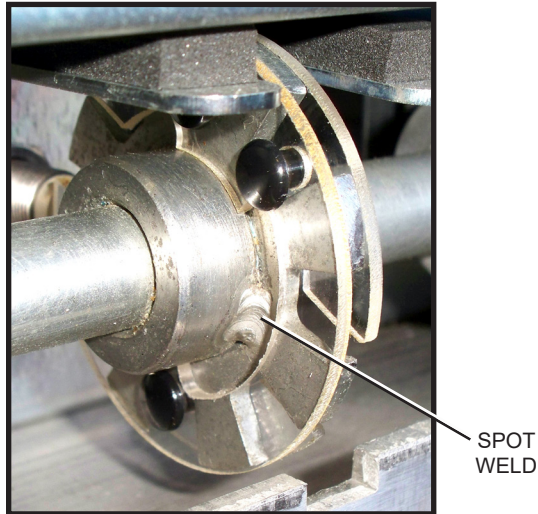

Figure 2
3. Refer to *Figures 2 & 3*. Position the two shields as shown, so that: